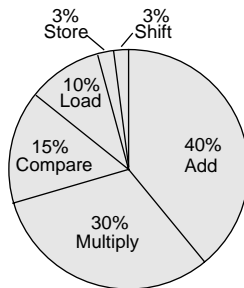

Figure 15. Instruction Mix Profile
Figure 15 shows the instruction mix profile for the 3 x 3 convolution.
In the MB8683x architecture, an interrupt is defined as a type of *trap*. There are 32 basic trap types defined in order of priority. The 15 possible external interrupts (encoded interrupt mode, see Figure 15) reside in priority levels 17 through 31 of the trap table. This means that the highest priority interrupt (15) is actually at priority level 17 of 32 in the trap hierarchy.